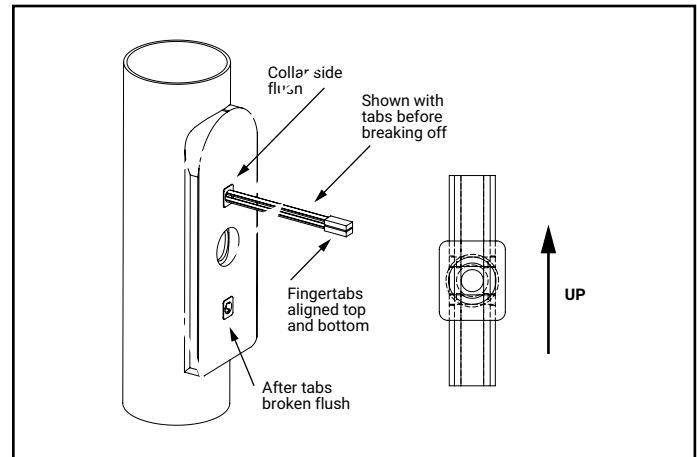

Figure 2
1. Mount toggle bolts to pole by inserting the toggle into the pole. If using a round pole mount adapter (optional) shown, install toggle through the 1/2" holes first. Cinch up collar against pole and remove finger tabs. Squeezing the tabs will shear them at the cinch collar. (Figure 2)